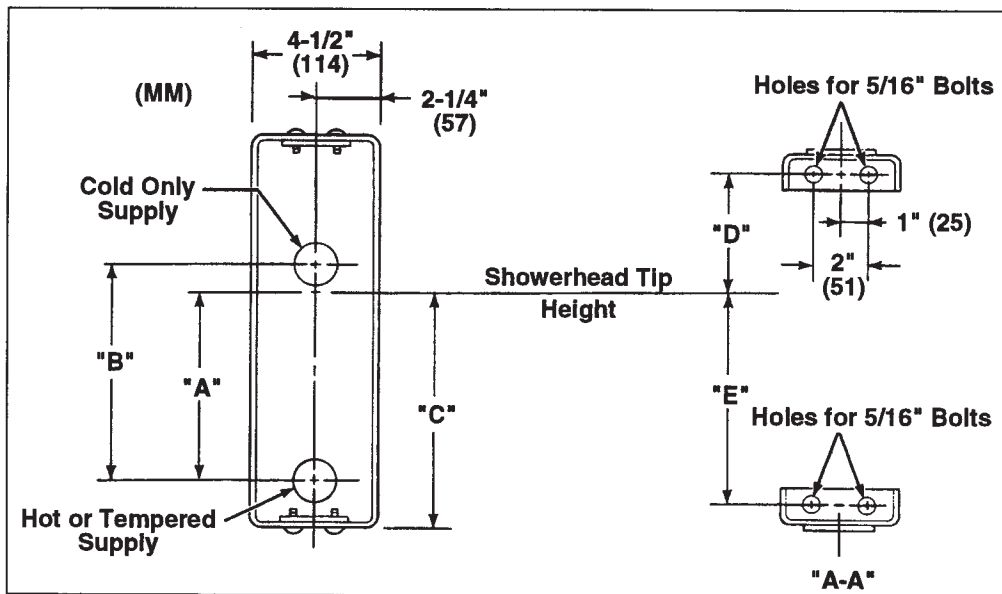
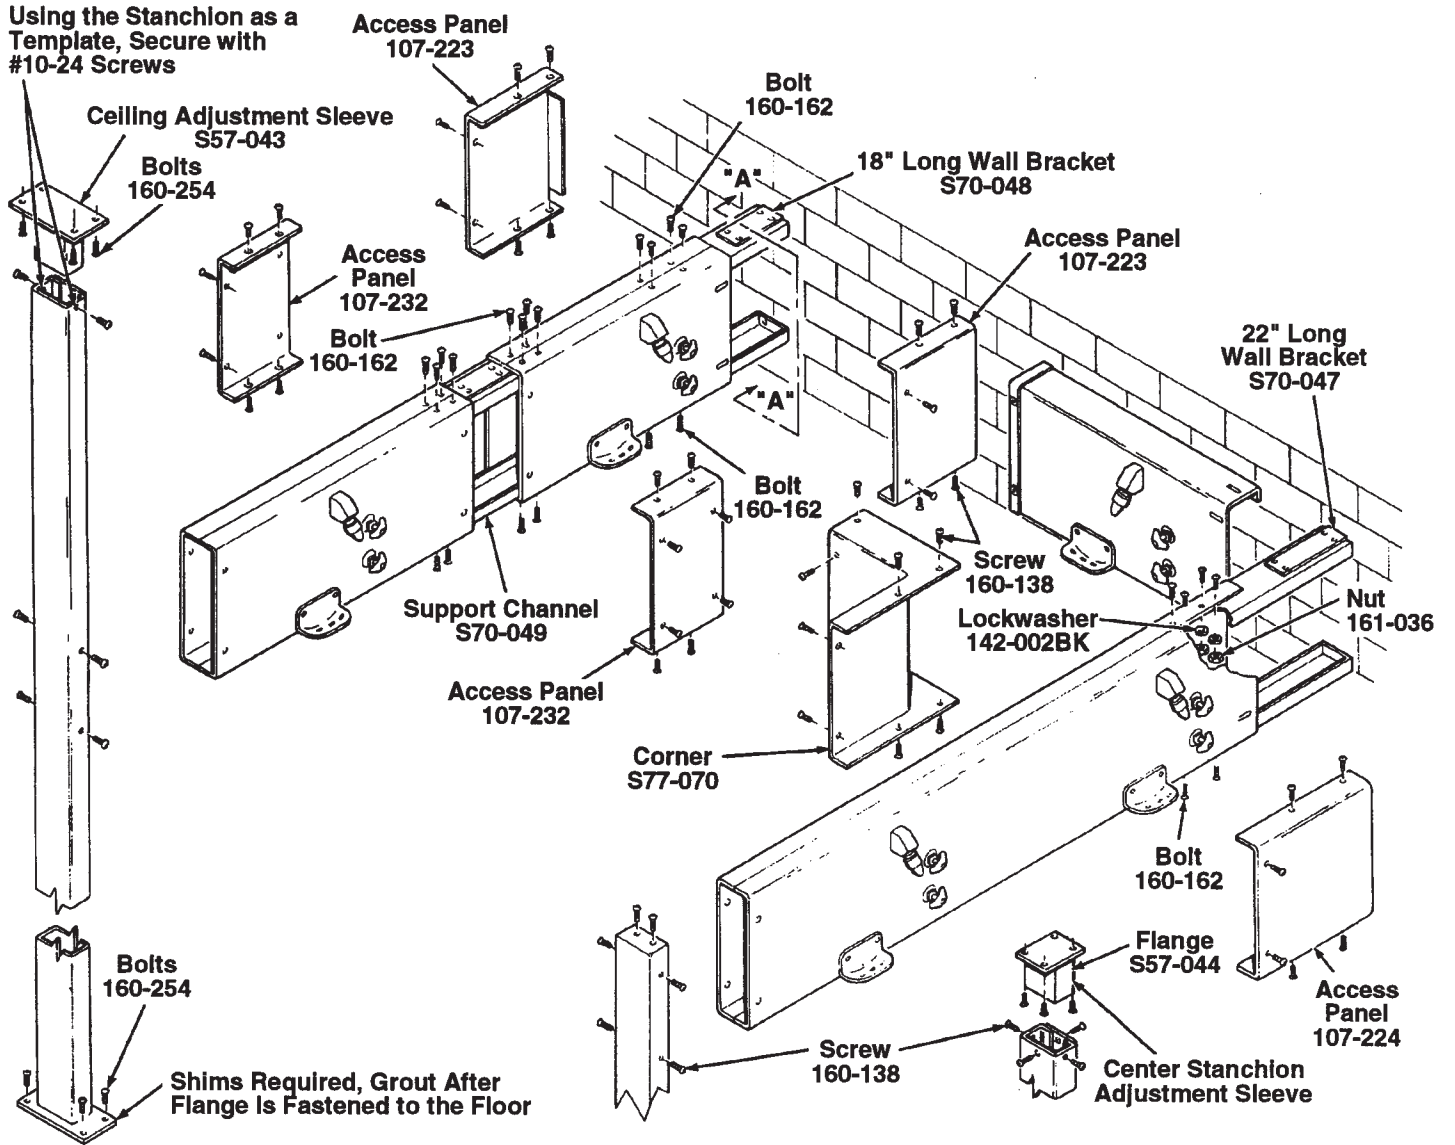

Figure 3
Figure 4
Refer to Figure 3 below and Figure 4 on page 8 when installing your Panelon Showers.
1. Rough-in supply piping to showers as shown in Figure 3 below and in Figure 4 on page 8 (piping supplied by installer).
- (1) Carefully check plans and/or specifications to determine showerhead tip height. Measure up from the finished floor to locate showerhead tip height, then, using "D" and "E" dimensions, scribe horizontal lines on the wall (see Figure 3).
- (2) Locate and secure the 18" and 22" long wall brackets as shown in section view "A-A" in Figure 3 on the shower panel centerline and horizontal line scribed in Step 2-A-1.
Refer to Figure 3 on page 6 and Figure 4 on page 8 when installing your Panelon Showers.
- (3) Using a support, slide the shower panel on to the wall brackets. Position the shower panel as indicated on the room layout (identified by a PA number). Assemble bolts (160-162), lockwashers (142-002BK), and nuts (161-036) through shower panel wall brackets. Tighten the bolts securely. See Figure 4 on page 8.
- (1) If shower panel also requires wall connection, make wall connections first as explained in Step 2 on page 6.
- (2) With the shower panel supported in position, slide the stanchion into place and loosely secure to the shower panel with the #10-24 x 1/2" long screws provided. NOTE: If the stanchion goes to the ceiling, slip the ceiling adjustment sleeve into the stanchion top first. See Figure 4 on page 8.
- (3) Using the flanges as templates, mark hole locations on the floor and/or ceiling. Remove stanchion and install suitable floor and ceiling anchors (supplied by installer). Repeat Step 2-B-2, and tighten screws securely. NOTE: Shim as required (supplied by installer) and grout after the flanges are fastened to the floor.
- (4) If a ceiling adjustment sleeve is used, secure the ceiling flange to the ceiling and secure tightly with the #10-24 x 1/2" long screws provided.
Use Figure 4 with Installation Steps 1-5 on pages 6 and 7.